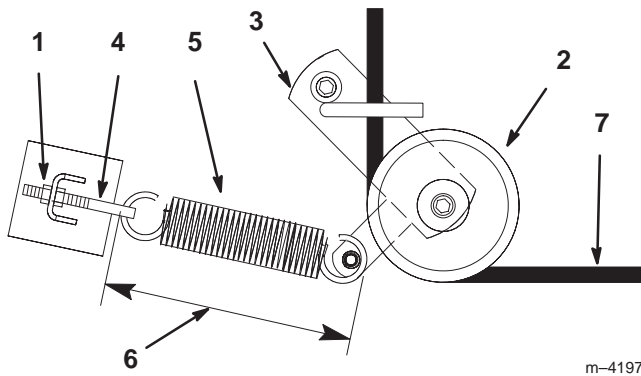
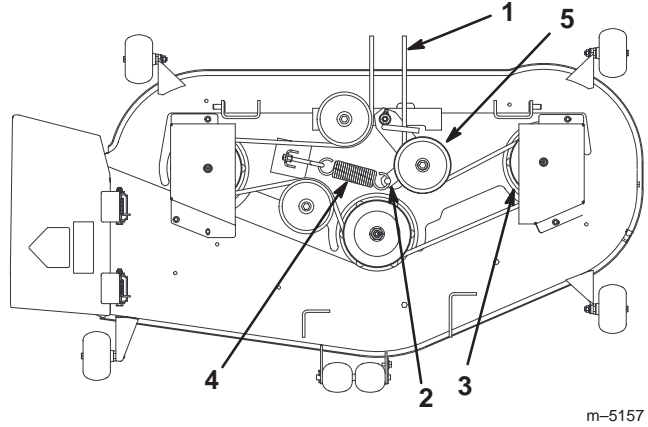

Figure 39
Figure 40
4. Loosen the outer nut on the spring eye bolt (Fig. 39) enough to allow removal of the belt.
5. Remove the belt. Start at the outside pulley and rotate the belt off (Fig. 40).
6. Route the new belt through the idler arm (Fig. 39) and onto the other pulleys (Fig. 40).
7. Tighten the outer nut on the spring eye bolt (Fig. 39).
Note: Check the spring length. The spring should measure 9-3/8 in. \pm 1/8 in. (238 mm \pm 3 mm) when installed with the height-of-cut set at 1-1/2 in. (38 mm). Adjust it if it does not (Fig. 39).